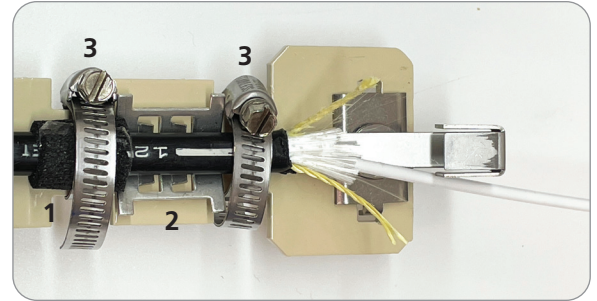

Figure 12
For Cables with NO Central Strength Member (Figure 12)
1. Apply a layer of adhesive foam to the cable sheath at the lower hose clamp location (#1 in Figure 12).
2. Position spur bracket under the cable, in between hose clamp locations (#2 in Figure 12).
3. Secure cable to the bottom plate bracket and spur bracket with the hose clamps. Hand-tighten hose clamps with a 1/4" hex-head tool (#3 in Figure 12).